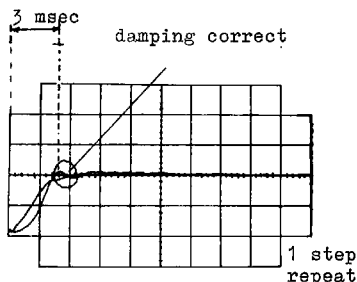

Fig 7-12
- 15) Start positioning over the next distance, and check the incidence shown in fig. 7-12&7-13 for scope adjustment see point 13. Positioning from cylinder X to cylinder Y forward/reverse.